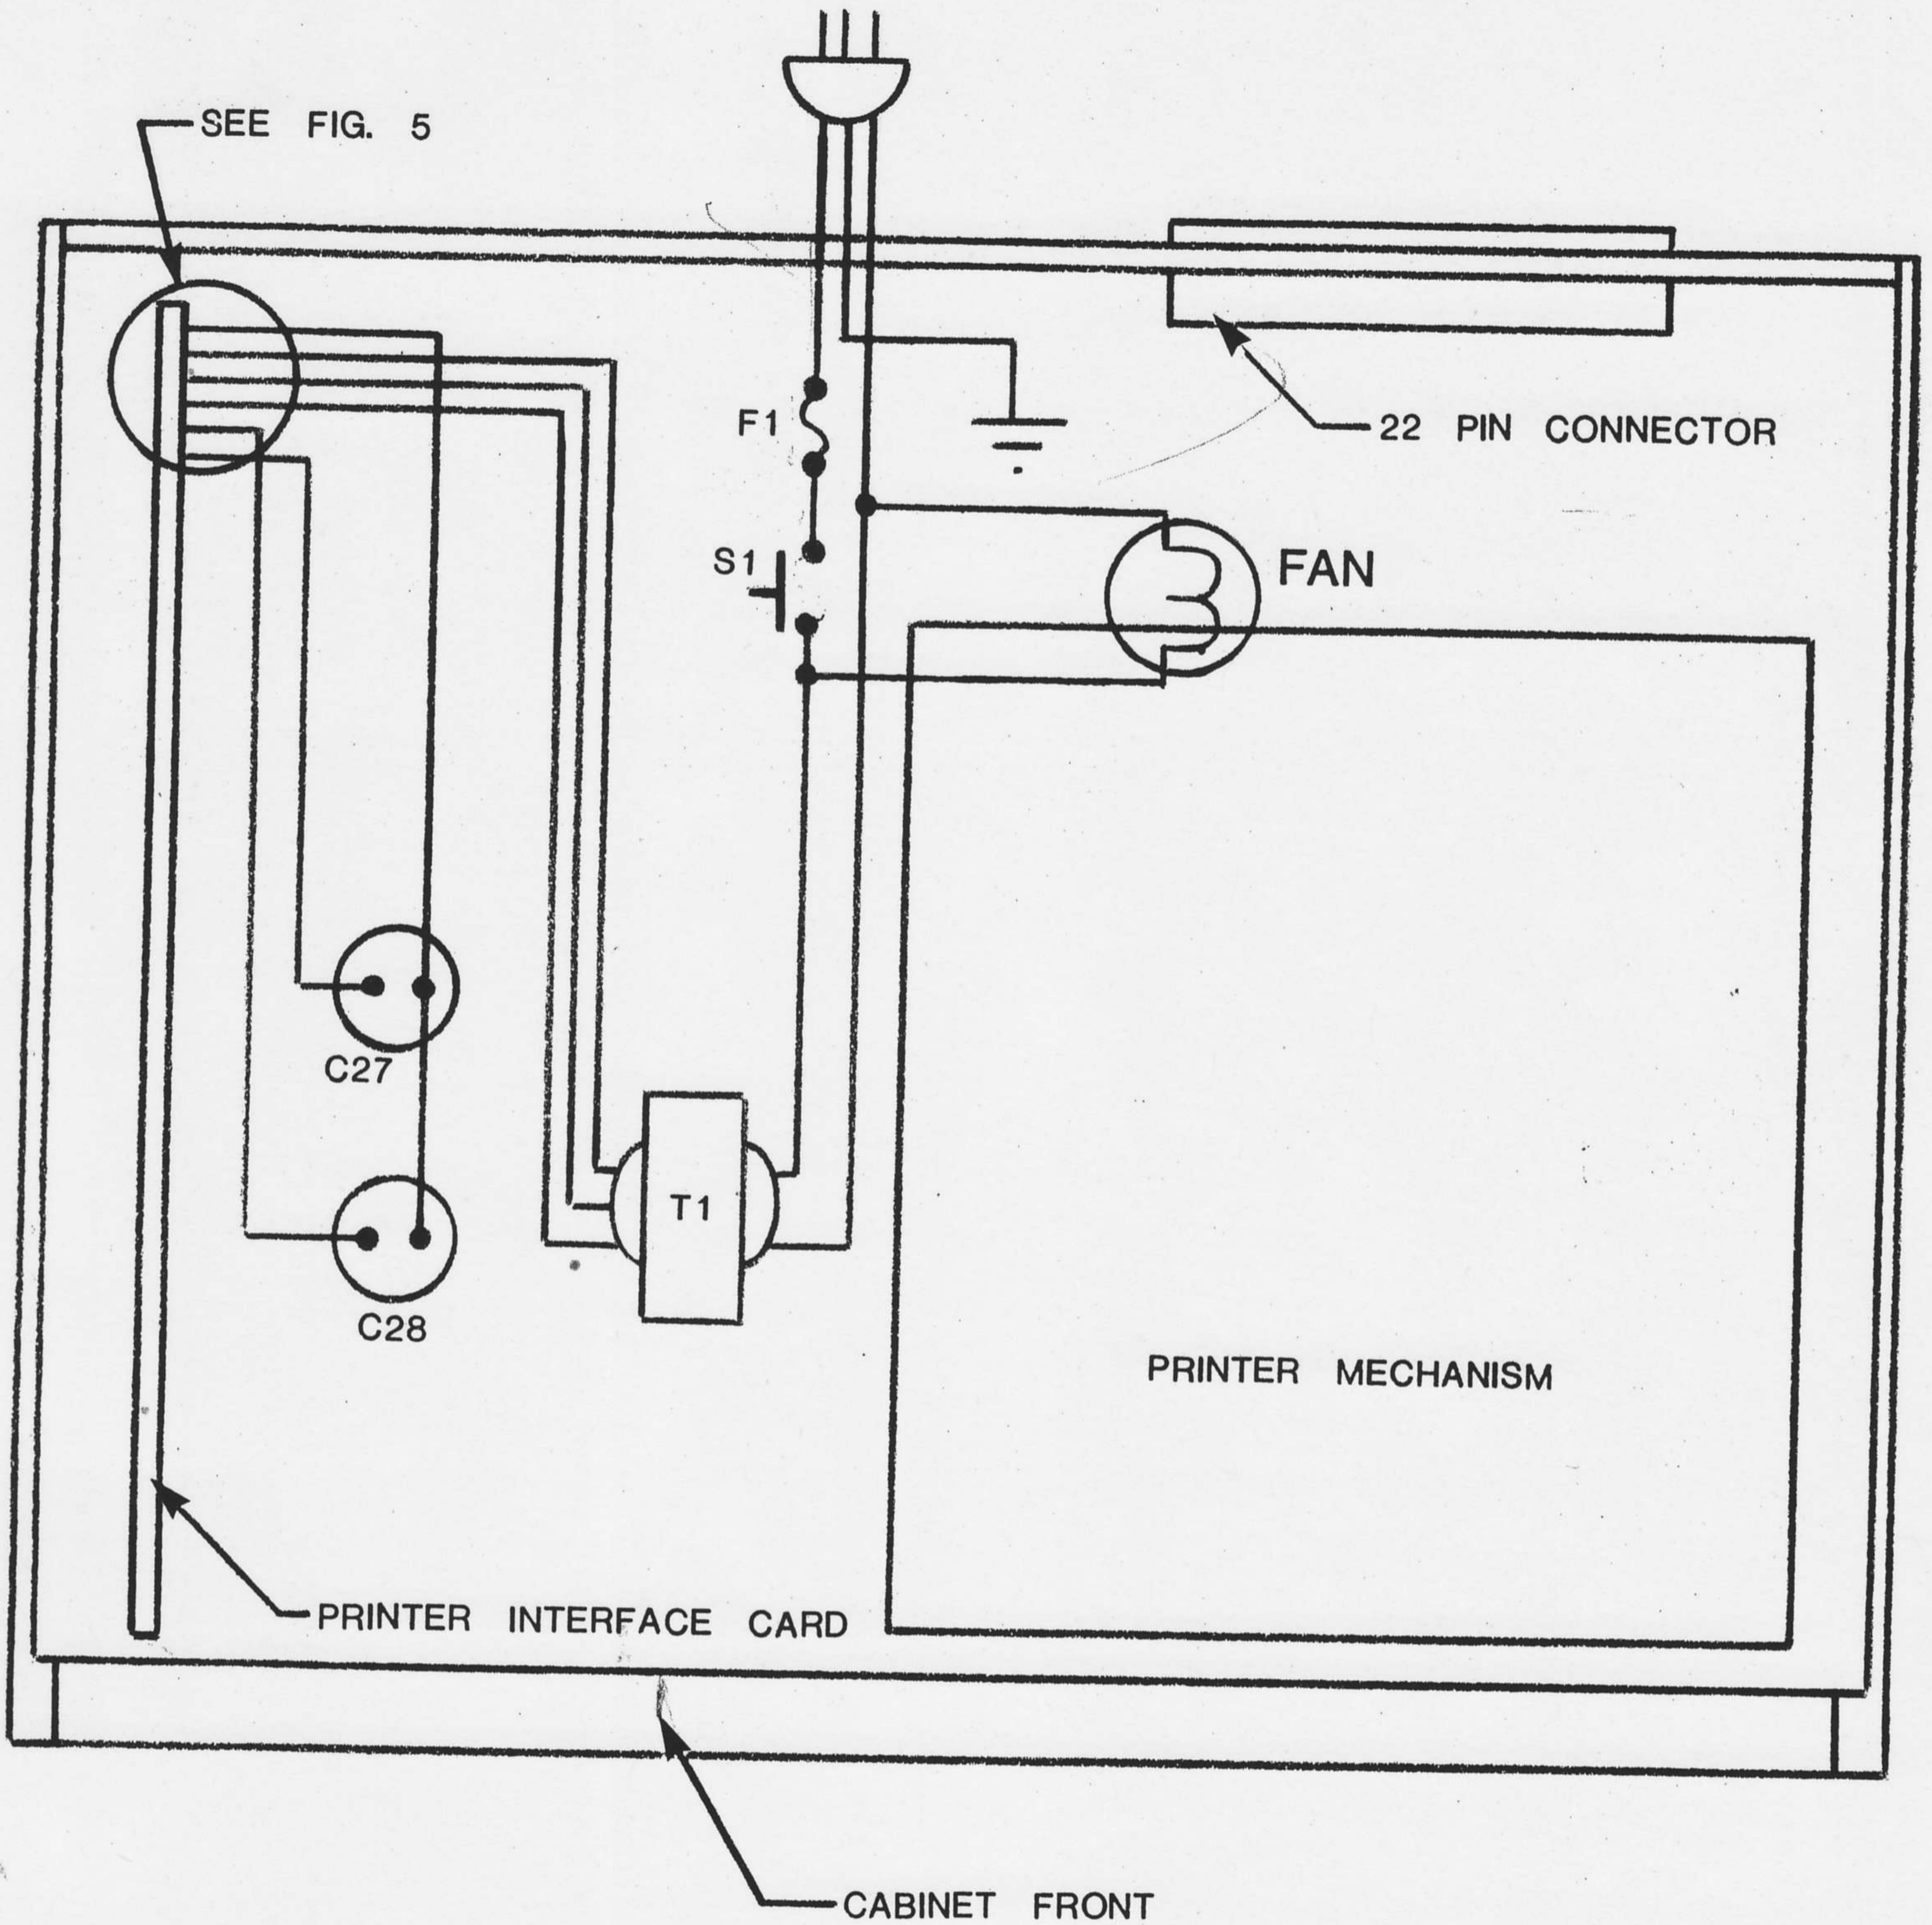

FIG. 1
- Next, mount the capacitors in their respective mounting brackets using two 6-32 \times $\frac{1}{2}$ " screws and two 6-32 nuts. Note the capacitor placement in Figures 1 and 2 and in Photos 3 and 4.
- Assemble and install the DC wiring harness using Figure 1 and 2 and Photo 3. Cut four 15" lengths, two 12" lengths and one 10" length from 16 gauge wire.
Note: Figures 1 and 2 show the DC power connections made to interface connector 8 with mating Molex blocks. These have been provided with the DC power supply cable pack.